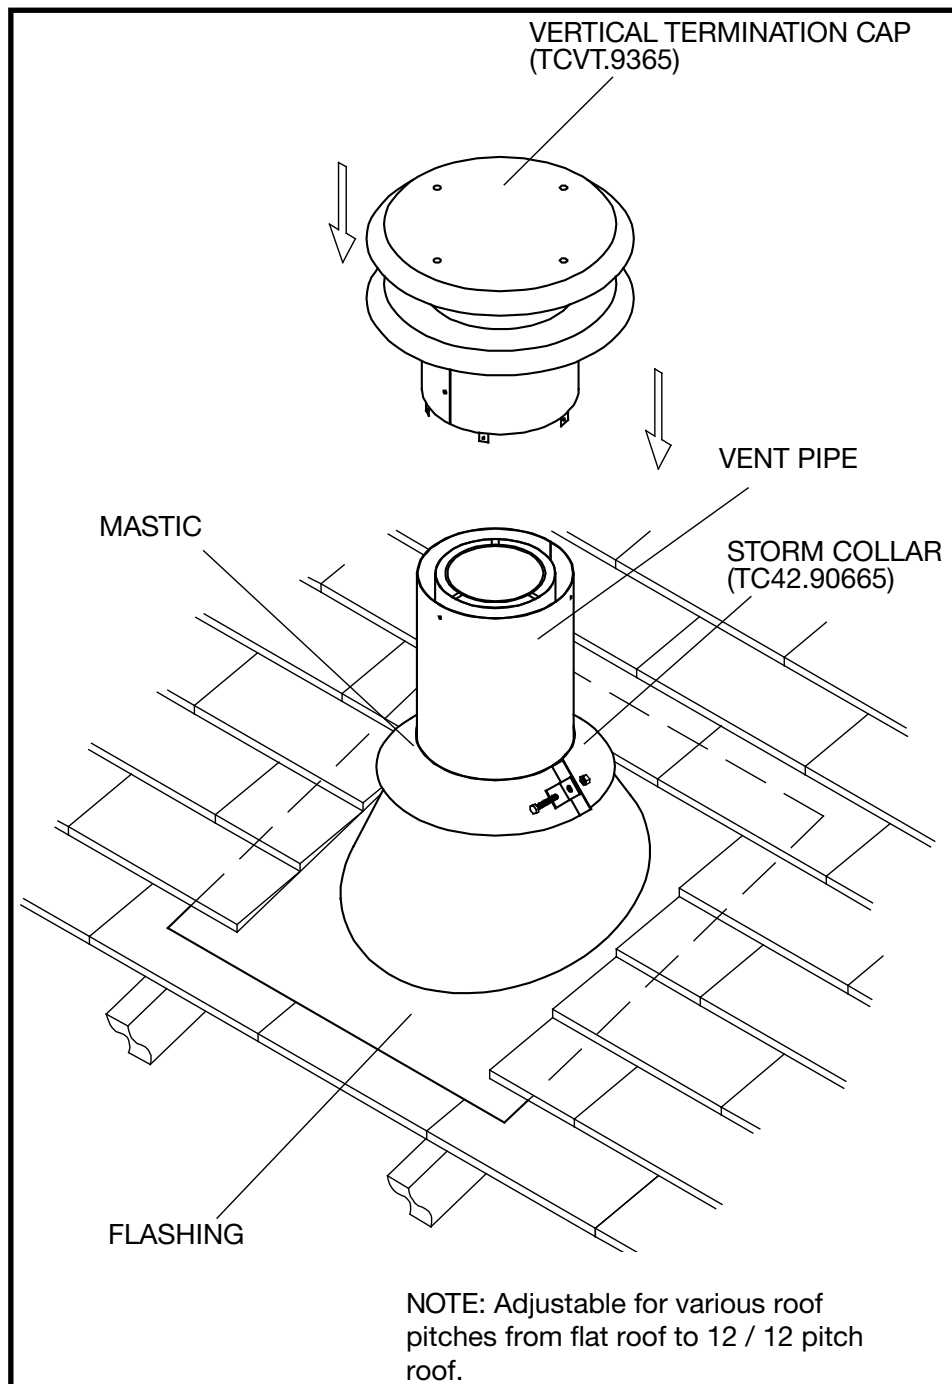

Figure 35: Roof vent terminal.
1. Place the roof flashing over the vent pipe, secure and seal it to the roof using the methods and materials appropriate for the type of roof on the building. Shingle roof example shown in Figure 35.